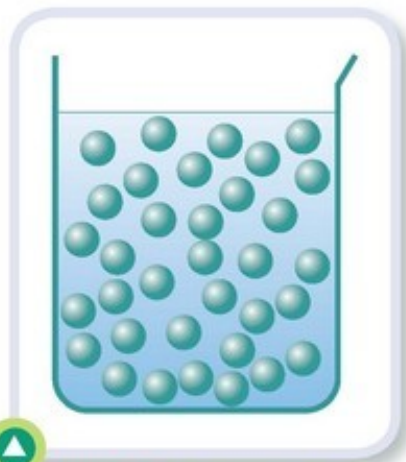

Figure 1.6 In a pure acid, such as concentrated sulfuric acid, none of the acid molecules dissociate into ions
- The Arrhenius theory explains why strong acids conduct electricity only when dissolved in water; there are no ions present in a pure acid (Figure 1.6).